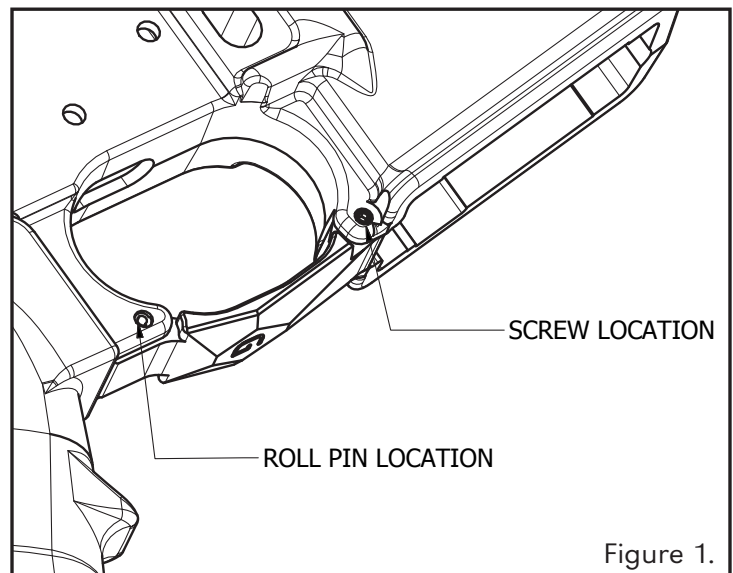

Figure 1.
2. Place a drop of oil on the bolt catch spring, and insert the bolt catch spring as well as plunger into the bolt catch hole on the left side of the receiver. **SEE FIGURE 1**
1. Insert the trigger guard into the lower as shown in Figure 1. With the holes in the guard and lower lined up lightly tap the roll pin through until flush. A light oil on the hole might assist in the assembly.